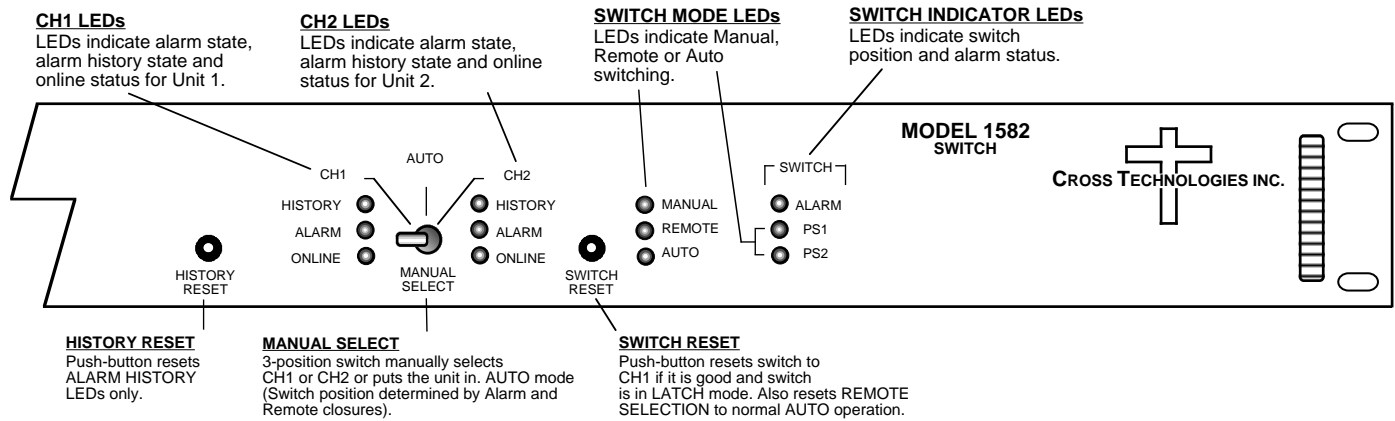

FIGURE 2.3 1582-1152 Front Panel Controls and Indicators
Figure 2.3 shows the front panel controls and indicators.
1. Set the on board controls as desired (Tables 2.0, 2.1, Figure 2.3).